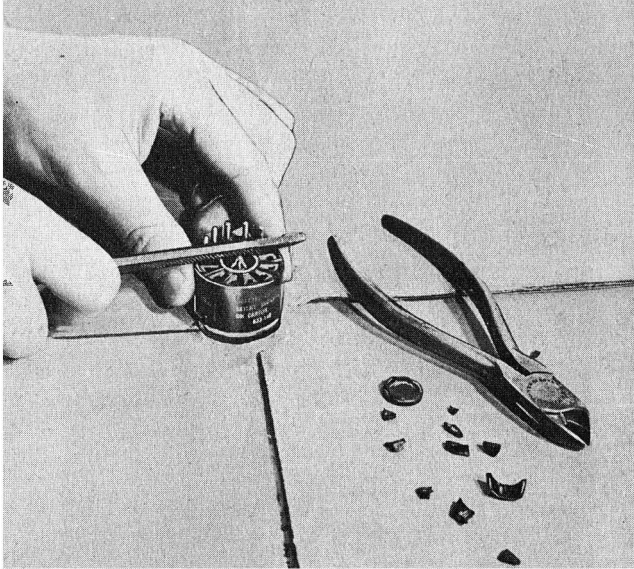

Fig. 103. Deactivating a picture tube. Drilling a hole in the keyway of the tube exposes the exhaust tip, which can then be broken.
1. Put the tube you want to dispose of into a carton designed to hold a unit of its size. Enough soft cloth should be placed under the face of the tube to make its base stick out at the top, outside the fold-over flaps of the carton (Fig. 103).